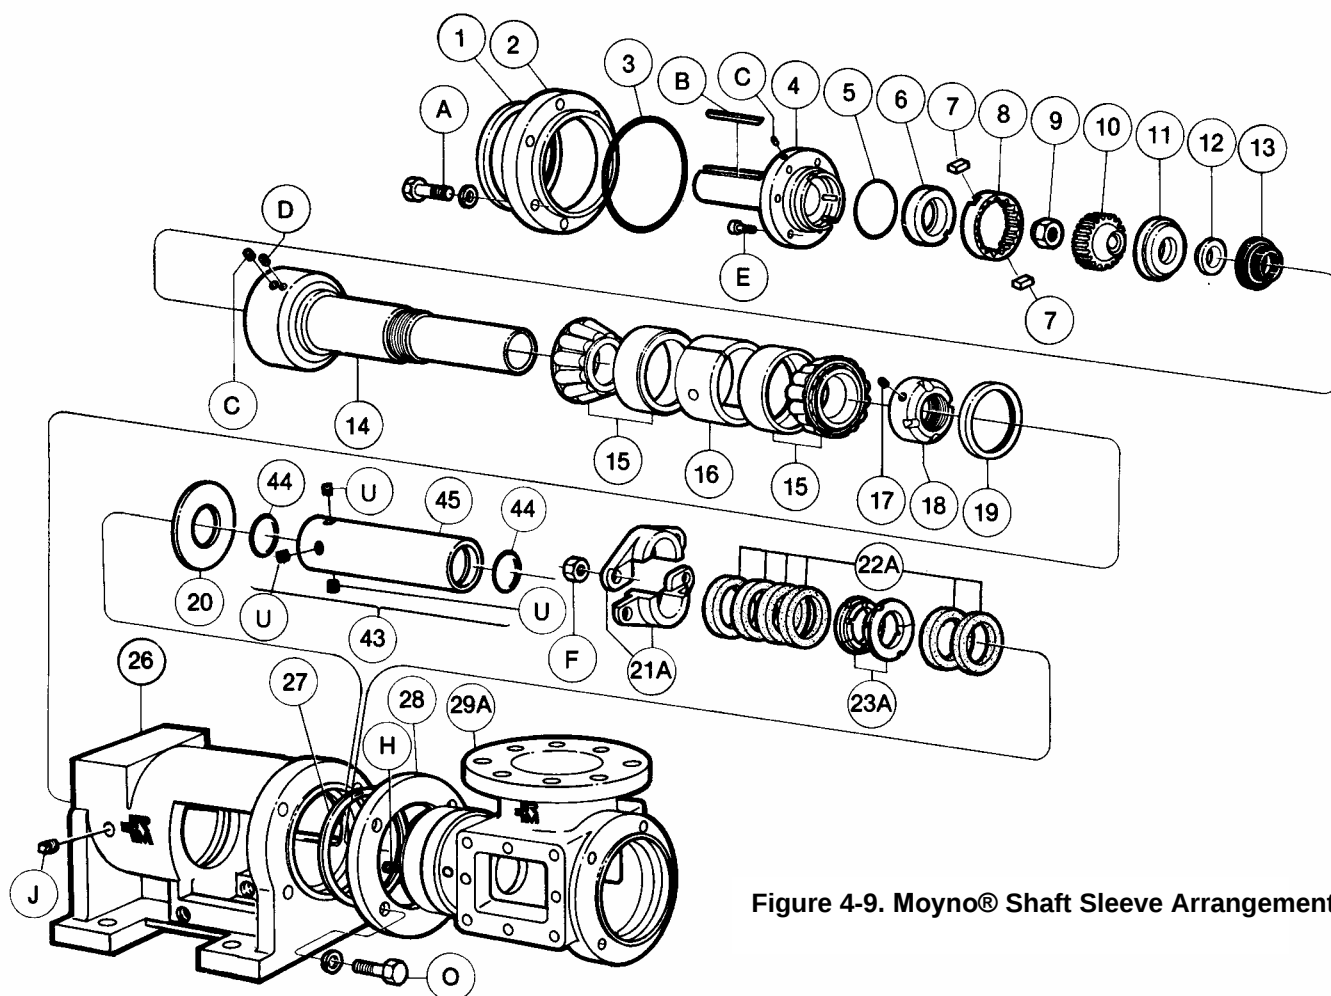
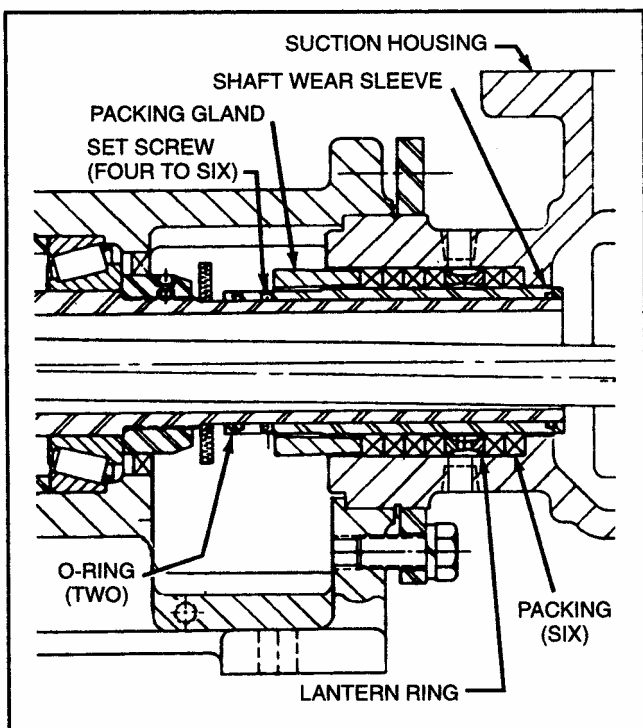

Figure 4-9. Moyno® Shaft Sleeve Arrangement
Figure 4-10. Pump with Shaft Wear Sleeve
Some pumps have a sleeve installed on the drive shaft to receive any possible wear caused by the packing. See sleeve kit (43, fig. 4-9), and the cross section illustration (fig. 4-10).
4-47. Disassembly (see fig. 4-9). After separation of bearing housing (26) from suction housing (29A), and removal of packing gland and packings, remove sleeve as follows:
1. Loosen four to six set screws (U) in sleeve (45), and pull sleeve off shaft (14).
2. Remove two O-rings (44) from interior of sleeve.